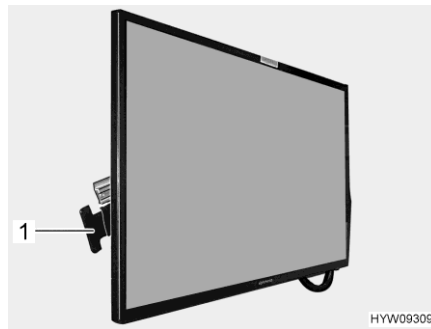

Fig. 68 Flat screen
- Press handle (Fig. 68,1) towards the flat screen and hold it there. The flat screen is unlocked.